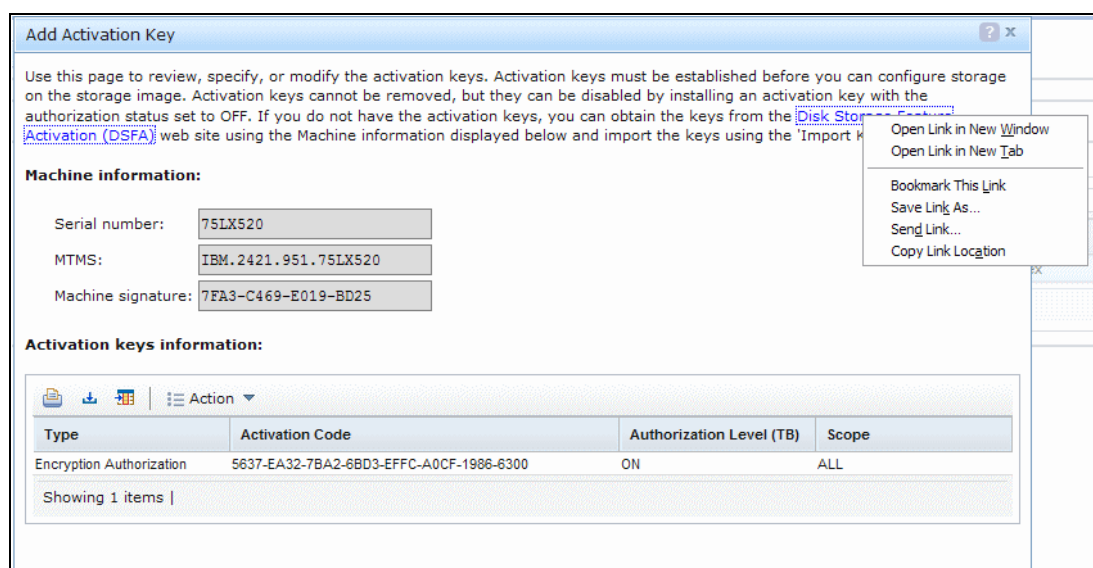

Figure 10-4 Launch DSFA URL link
5. Another way you can link to the DSFA web site is to move your cursor to right-click the blue DSFA area. Select **Open Link in New Window** to launch the DSFA window (Figure 10-4).